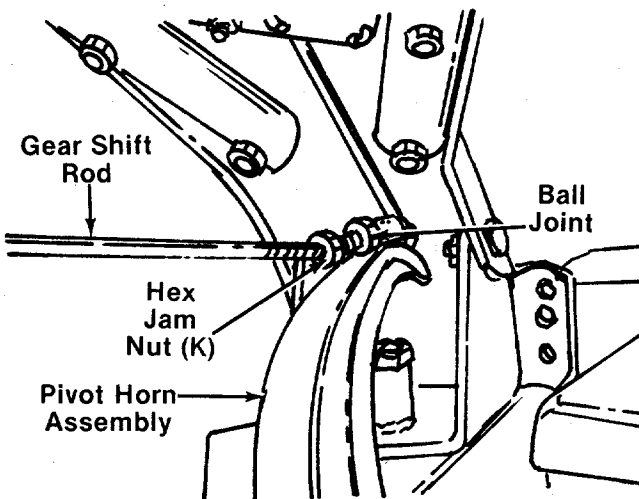

FIGURE 12.
3. Thread hex jam nut (K) on one end of gear shift rod. Then thread gear shift rod into ball joint on the top of pivot horn assembly 10 to 12 complete turns, approximately 1/2 inch. See figure 12. Lock hex jam nut against ball joint.